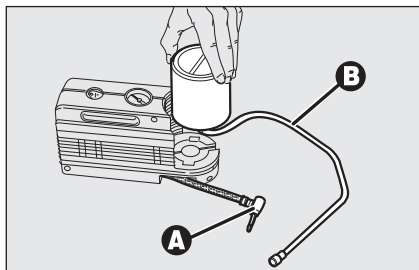

fig. 23
- disconnect connection **A**-fig. 23 and hose **B**;